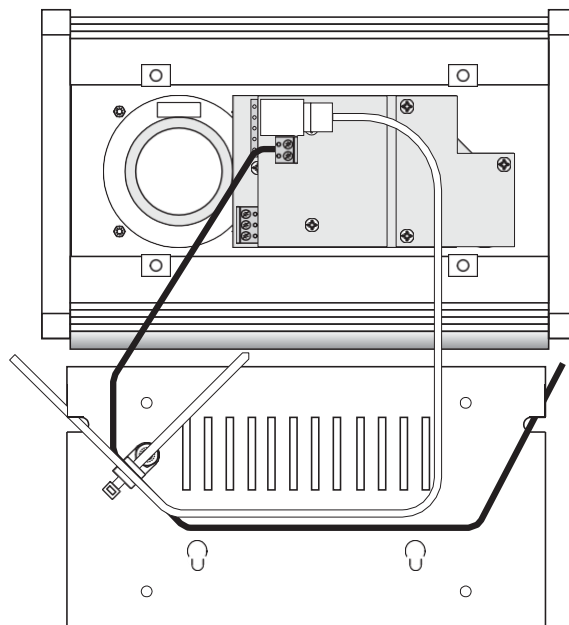

Figure 4-1 ICS-22 DT-box wiring
**Note:** If the panel is installed in a DT-Box, the back cover of the DT-Box must first be removed. Feed the Matrix cable through one slot and fasten it to the strain relief as shown in Figure 4-1 at right.